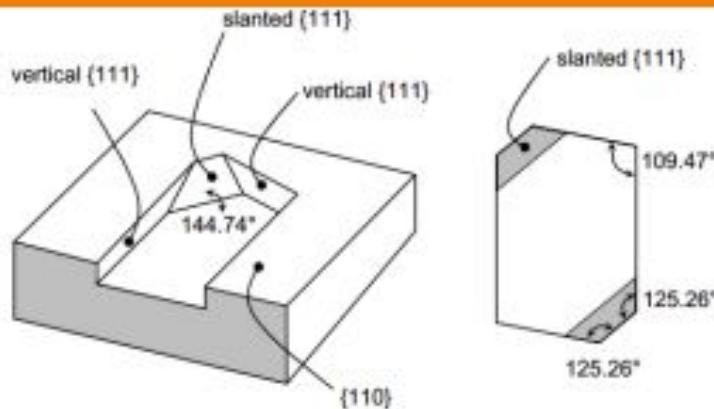

Fig. 4.7. Anisotropic etching of (110) silicon exposes various {111} planes, producing four vertical sidewalls and two slanted sidewalls.
For (110) silicon anisotropic etching results in an opening in the plane of the wafer that resembles a lopsided hexagon. The sidewalls make different angles with the horizontal than in (100) silicon. (Fig. 4.7.) Four of